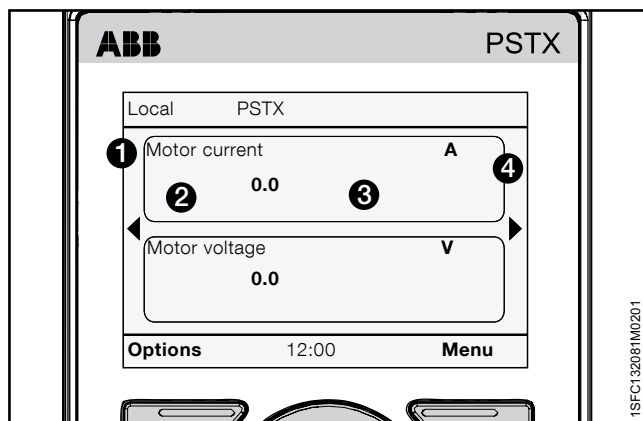

Figure 6.19
Select the display style for the home view. The selected display style is shown by ❷ in **Figure 6.19**.
Push "Save" to save the value. Decimal numbers are shown in ❸ in **Figure 6.19**.
Push  "Save" to save the display name. Display name is shown by ❶ in **Figure 6.19**.
Push  "Save" to save the value. Value is shown by ❸ in **Figure 6.19**.
Display signal min as - Push  "Edit" to select the scaled minimum value in the Home view. Use the Navigation keys to change the value, Push  "Save" to save the value. See ❸ in **Figure 6.19**.
Display signal max as - Select the scaled maximum value to show in the Home view. Use the Navigation keys to change the value, Push  "Save" to save the value. See ❸ in **Figure 6.19**.
Display unit - Type in the unit to show in the Home view. You can type a unit with up to 10 characters. Use the Navigation keys to change the characters. Push  "Save" to save the Home view unit name. See ❹ in **Figure 6.19**.